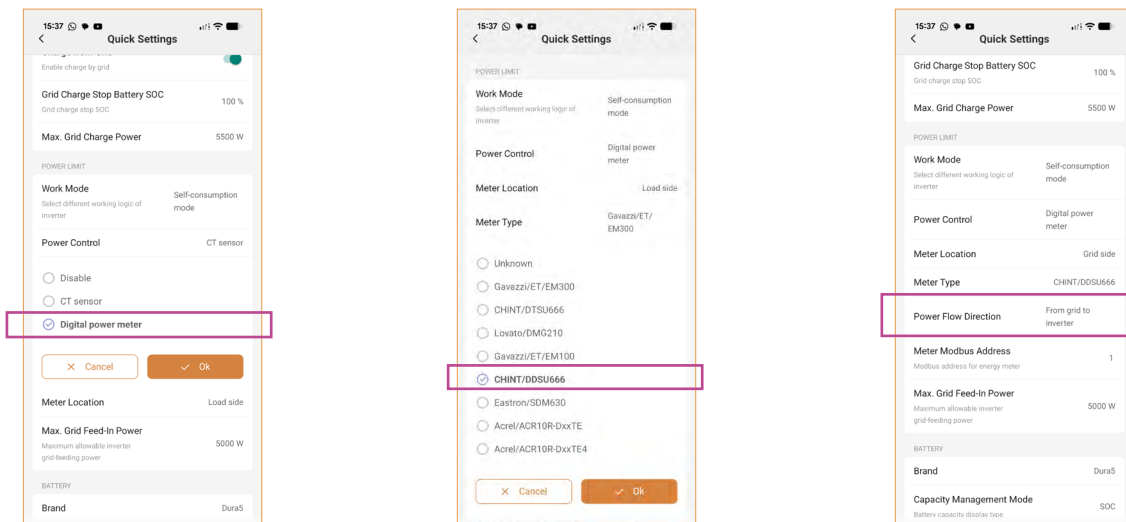

Figure 13.
3. For "meter type" select the CHINT as shown in **Figure 13**, below.